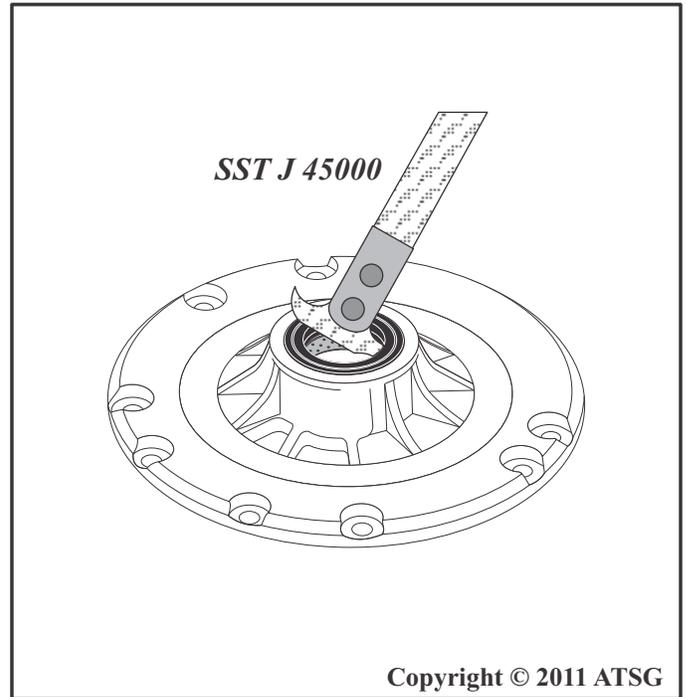

Figure 100
22. Using SST J 45000 or similar seal removal tool, remove the Oil Pump Body Seal as shown in Figure 100.